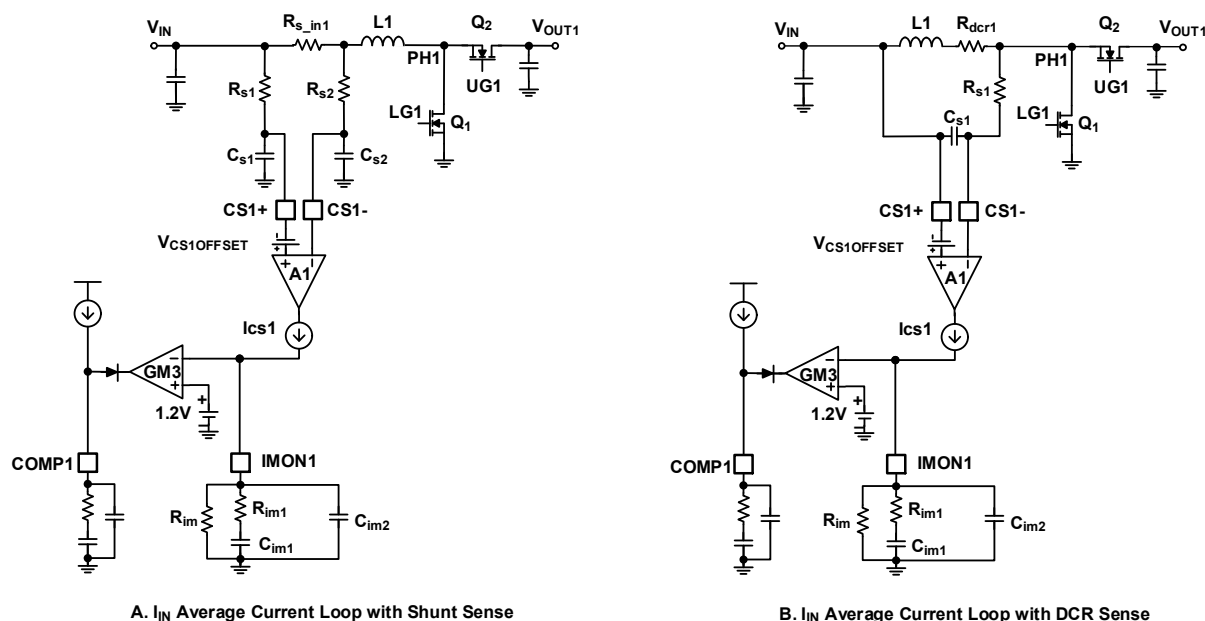

Figure 40. Input Average Current Monitoring and Regulation Loops
The ISL81805 has two current-sense amplifiers (A1 and A2) that monitor the input current of both channels. Figure 40 (A) shows the ISL81805 Channel 1 current shunt sense and monitor circuit which is identical to Channel 2. The voltage signal on the current sense resistor R_{S_IN1} is sent to the differential input of CS1+/CS1-, after the RC filters R_{S1}/C_{S1} and R_{S2}/C_{S2} . Renesas recommends using a 1Ω value for R_{S1} and R_{S2} , and a 10nF value for C_{S1} and C_{S2} to effectively dampen the switching noise without significantly delaying the current signal or introducing too much error by the op-amp bias current. The A1 amplifier converts the current-sense voltage signal to the current signal I_{CS1} .
Figure 40 (B) shows the ISL81805 Channel 1 inductor DCR current sense and monitor circuit. R_{DCR1} plays the same role as R_{S_IN1} in the shunt current sense circuit. Renesas recommends keeping $R_{S1} \times C_{S1} = L1/R_{DCR1}$. To minimize the error caused by the A1 input bias current, Renesas recommends keeping R_{S1} less than 10k.
When DE mode is set, Channel 1 and 2 boost sync FET driven by UG1 and UG2 are all running in DE mode. The inductor current is not allowed to reverse (discontinuous operation) depending on the zero-cross detection reference level V_{CROSS1} for Channel 1 and V_{CROSS2} for Channel 2 sync FET. At light load conditions, the converter goes into diode emulation. When the load current is less than the level set by $V_{IMON1BSTEN}$ or $V_{IMON2BSTEN}$ typical 0.835V on the IMON1 or IMON2 pin, Channel 1 or 2 enters Burst mode. Equation 9 sets the Burst mode operation enter condition for Channel 1 as an example (see Figure 40). The same equation also applies to Channel 2.
As shown in Figure 40 in Input Average Current Monitoring and Regulation Loops, the inductor peak current is sensed by the shunt resistor R_{S_IN} and amplifier A1. When the voltage drops on R_{S_IN} reaches the set point $V_{OCSET-CS}$ typical 82mV, Q_1 is turned off. The first-level peak current limit setpoint (I_{OCP1}) is calculated using Equation 12.
In cases of OVP protection, the inductor current becomes too negative. The negative current is sensed by the shunt resistor R_{S_IN} and amplifier A1 as shown in Figure 40. When the voltage drop on R_{S_IN} reaches the set point $V_{OCSET-CS-N}$ (typical -60mV), Q_2 is turned off and Q_1 is turned on. The negative peak current limit set point I_{OCPPN} is calculated using Equation 14.